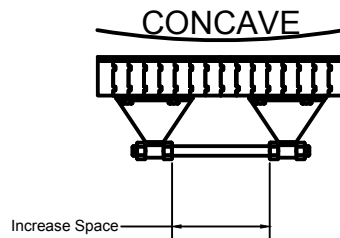

FIGURE 12
Step 2: Using the climate adjusters attached to the bottom of the play field, create a concave condition across the width of the play field along the entire length. This is recommended for proper play. **(See Figure 12)** (Check with a straight edge across width at each climate adjuster. A sheet of paper should go under at the center of the straight edge when properly adjusted)